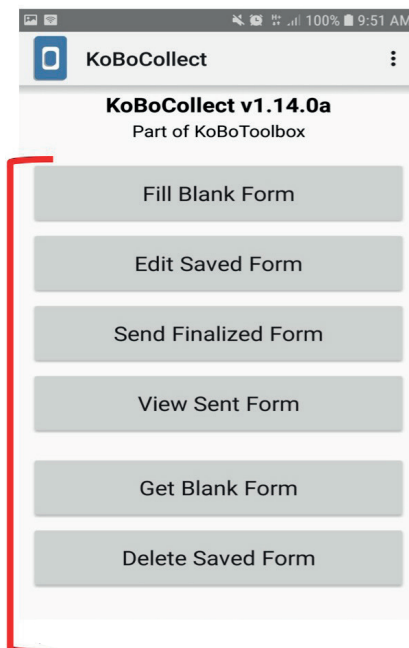

Figure 16: KoBoCollect Home Page
1. Click on the “Return” button on the device to head back to the Home Page. Once on Home Page (Figure 16), the following tabs will be visible: